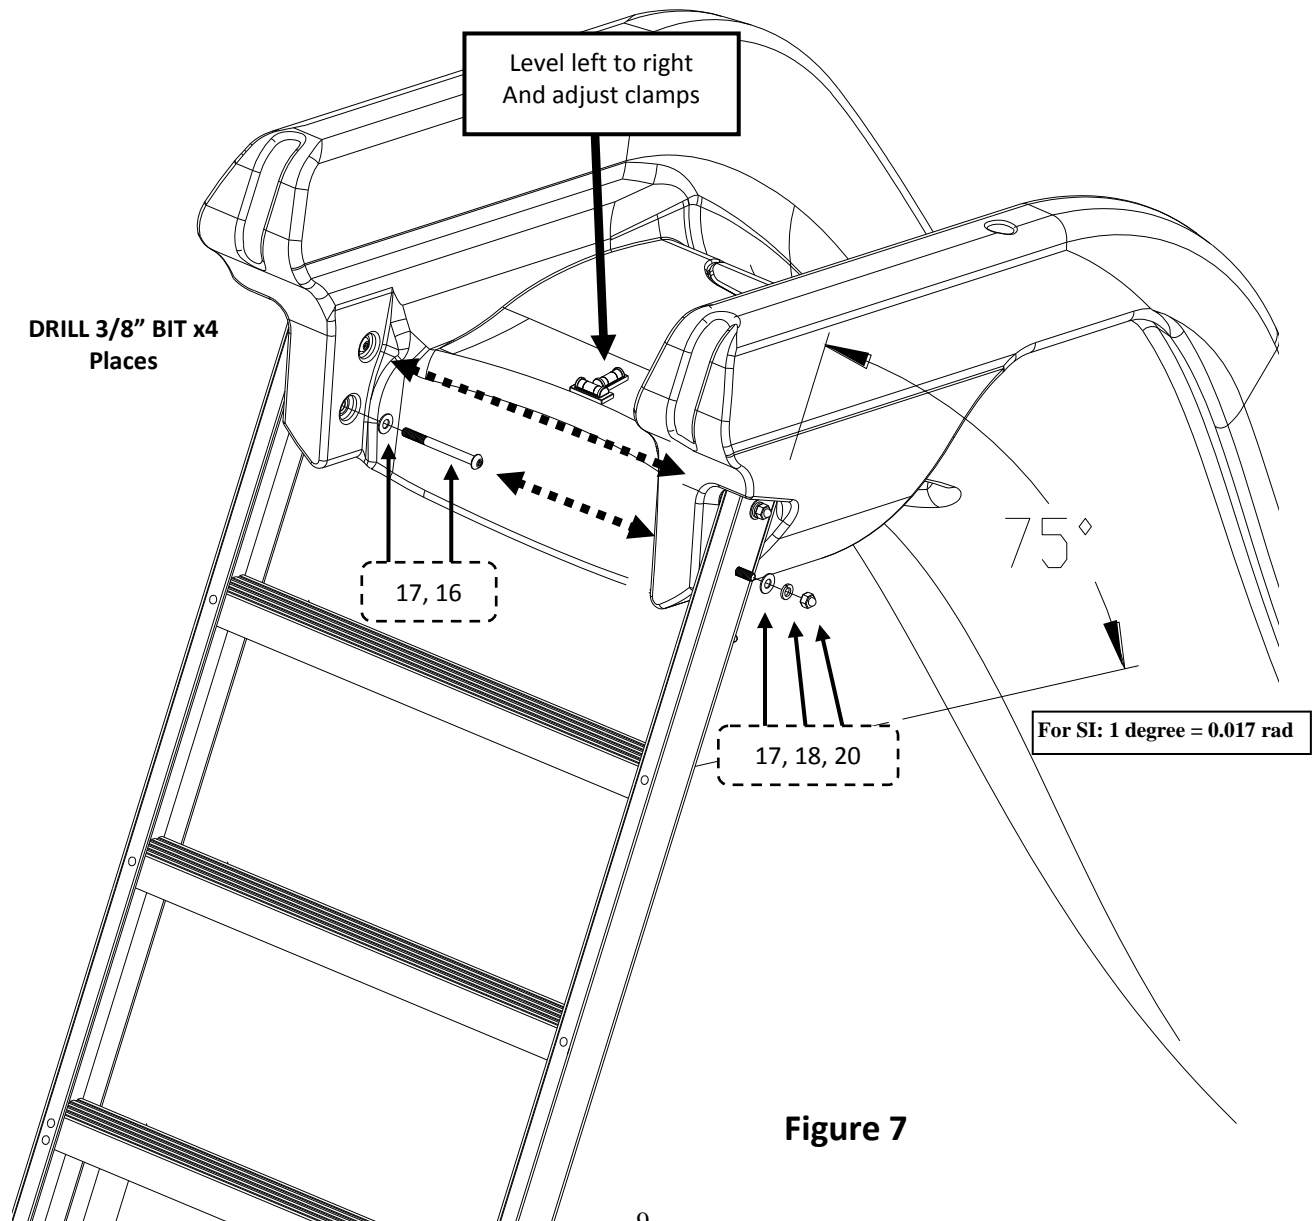

Figure 7
- 7) Drill two 3/8" (9.5 mm) diameter holes through each of the ladder side rails using the holes in the slide as a drill guide. See Figure 7
- 8) Secure the ladder to the slide using the hardware as shown in Figure 7. Insert a (#16) 3.5" Button Head Screw with a (#17) Flat Washer though each drilled hole. Fasten each screw using a (#17) Flat Washer, (#18) Lock Washer, and (#20) Acorn Nut.